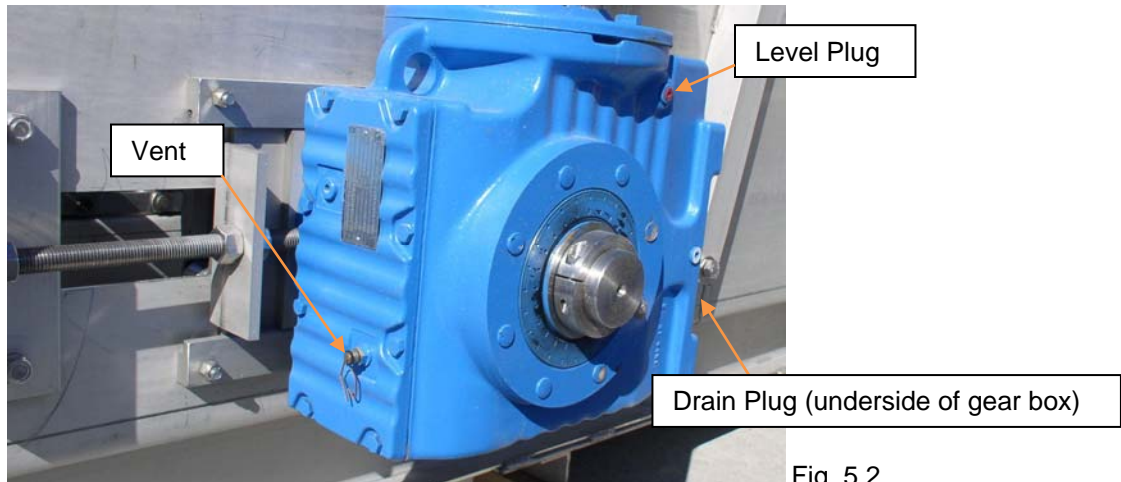

Fig. 5.2
- Open the drain plug as shown in figure 5.2 and check the oil for consistency. The oil should smell fresh and not burnt or dirty. The oil should look clear or transparent and not black or gray.
- Remove the oil level plug as shown in figure 5.2.
Clean the drive and gearbox ventilation. Remove the gearbox vent as shown in figure 5.2 and clean with air or cleaning solvent. Replace the vent when cleaned.
- Remove the drain plug as shown in figure 5.2 and drain the oil into a proper waste oil container.